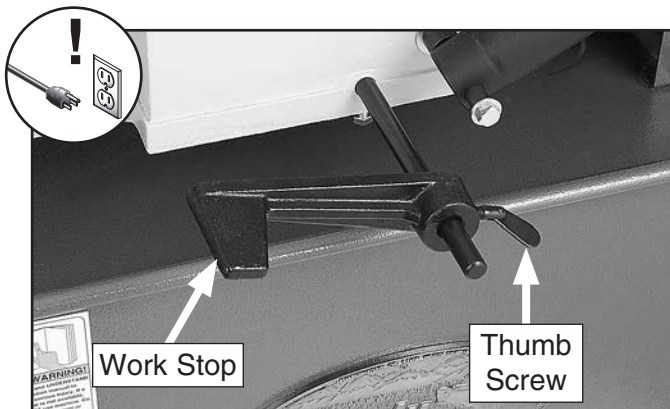

Figure 48. Location of work stop and thumb screw.
- Loosen thumb screw shown in **Figure 48** and adjust work stop until it contacts workpiece. Tighten thumb screw to secure work stop.